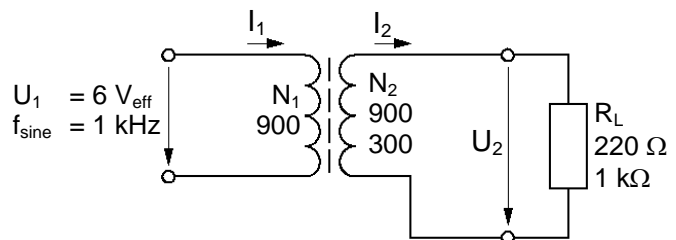

Fig. 18.4.10: Exercise circuit, transformer  $N_2 = 900$  or  $300$  with core
- Assemble the circuit shown in Fig. 18.4.10 on the Electronic Circuits Board. First, use the secondary coil with  $N_2 = 900$  windings.